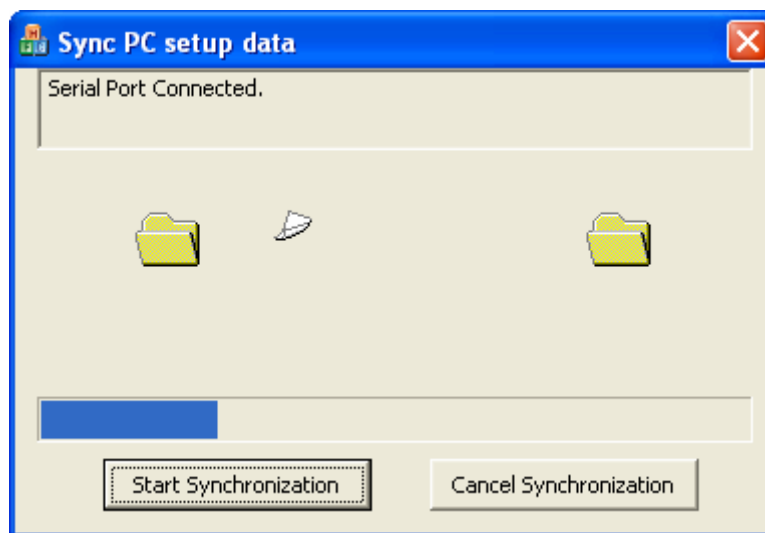

Figure 15 : Synchronizing CyberComm data
3. **Sync Device Data** dialog appears (Figure 15). Click **Start Synchronization**. The progress bar shows the status of data synchronization.